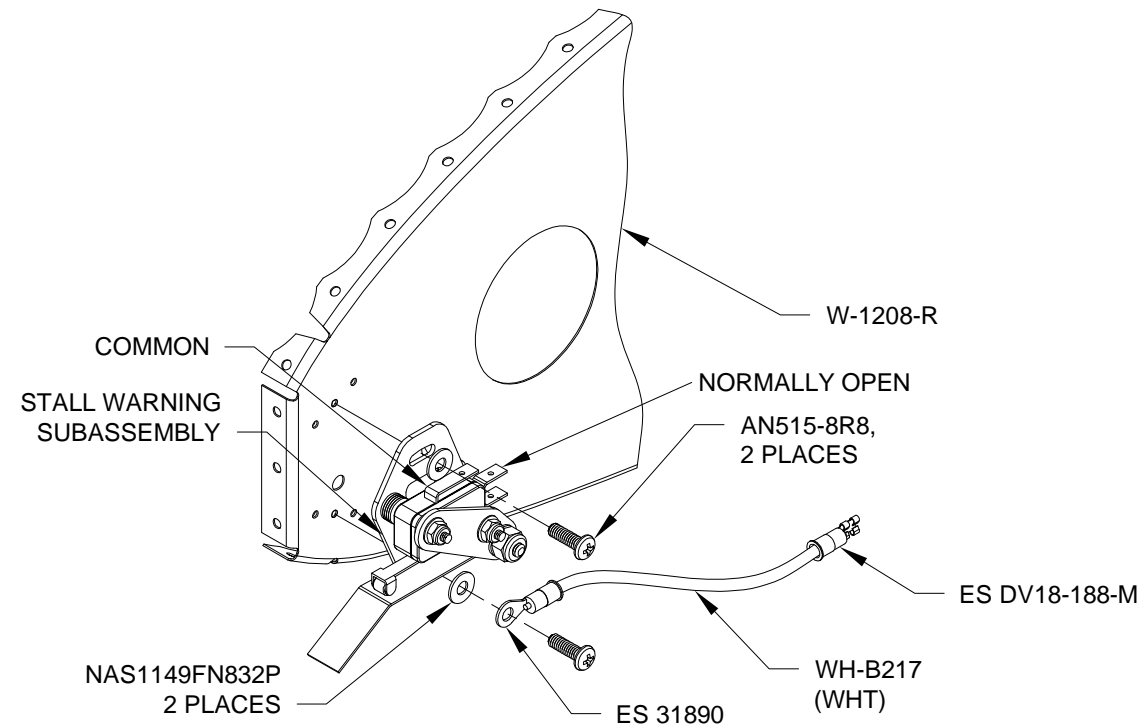
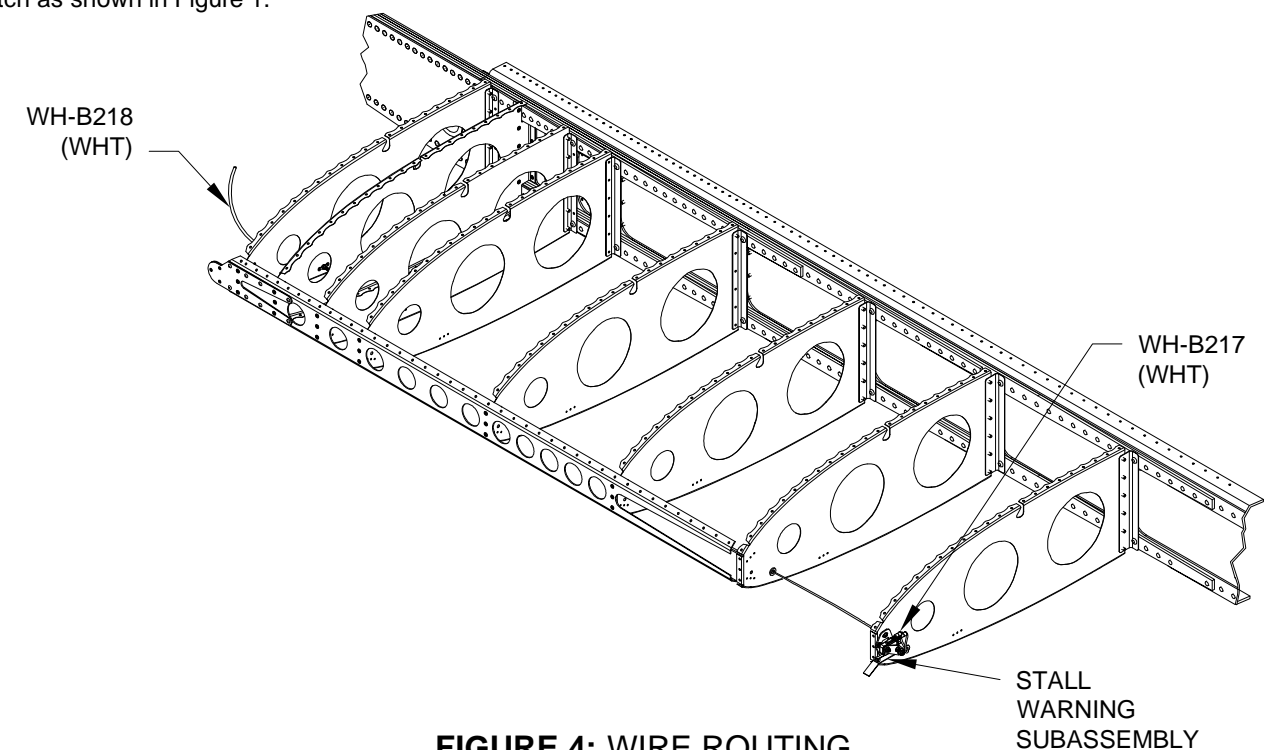

FIGURE 1: INSTALLING THE STALL WARNING SUBASSEMBLY
FIGURE 4: WIRE ROUTING
Step 2: Install the Stall Warning Subassembly on the W-1208-R Nose Rib as shown in Figure 1. The upper screw goes through the slot in the VA-195A Mount Plate and allows the angle of the Stall Warning Subassembly to be adjusted. The lower screw passes through the ES 31890 terminal on the WH-B217 (WHT) Ground Wire as shown in Figure 1.
Step 7: Install the WH-B218 (WHT) Terminal Wire to the N.O. (normally open) terminal of the ES E22-50K Micro Switch as shown in Figure 1. Starting at the stall warning subassembly, route the terminal wire inboard through the snap bushing in each W-1208 Nose Rib as shown in Figure 4. Install the WH-B217 (WHT) Ground Wire to the COM. (common) terminal of the ES E22-50K Micro Switch as shown in Figure 1.